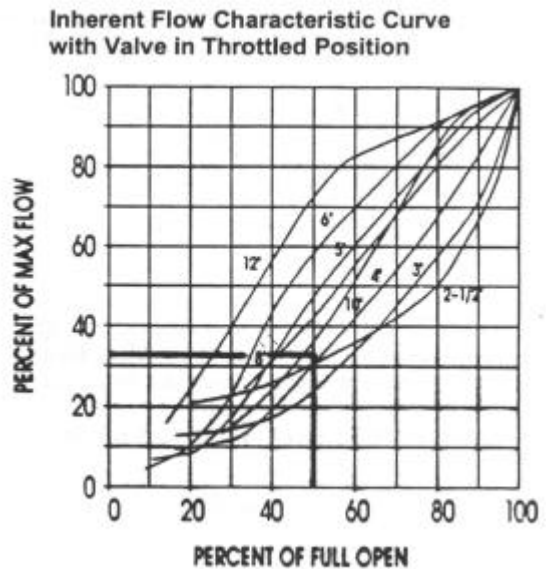

Fig. 3
6.3.3 Locate percentage of valve opening on the bottom scale of Flow Characteristic Curve (fig 3). Project line vertically up to intersect with the Valve Characteristic Curve and from this point project line horizontally across to the left of the chart and record the percentage of maximum flow rate.
- From Flow Characteristic Curve (fig 3), a 4 inch valve 50% open, represents 34% of maximum flow. Approximate flow of a 4 inch valve, with a 5.4 ft. (1.65 m) pressure drop when 50% throttled is: